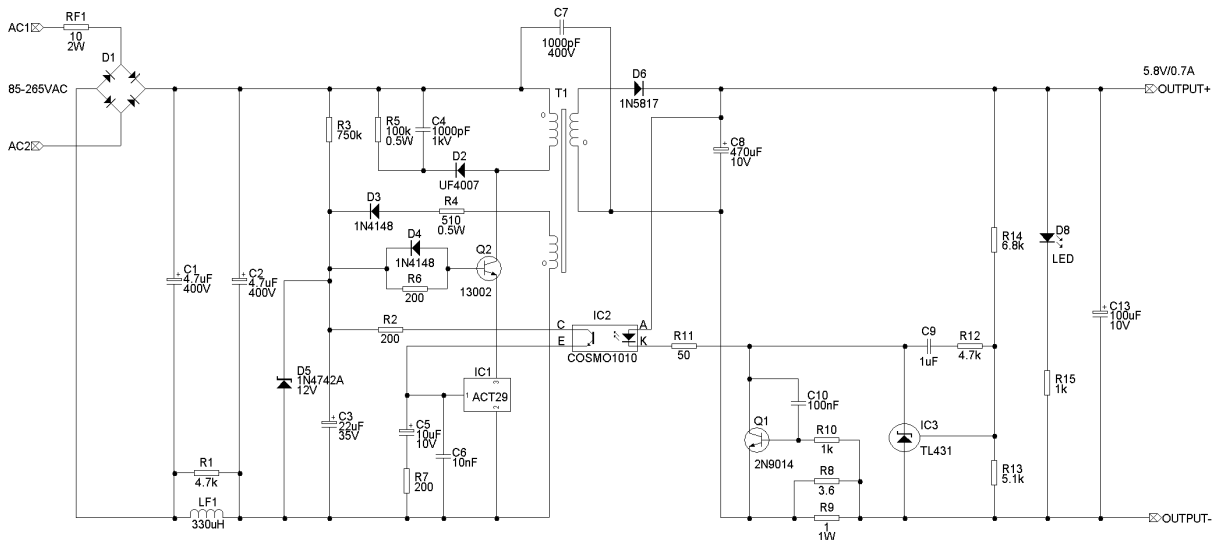

Figure 4. Charger Adaptor Circuit Using '431 on Secondary Side
For lowest component count, the application circuit in Figure 4 provides a constant voltage output with constant current limit determined by $V_{BE_{Q1}} \cdot (1 / R8 + 1 / R9)$. The output voltage can be adjusted by selecting R14 as follows:
Table 1. System Performance of Circuit in Figure 4
1. Use a "star point" connection at the GND pin of ACT29 for the FB/VDD bypass components (R7 and C6 in Figure 4), the input filter capacitor (C2 in Figure 4) and other ground connections on the primary side.